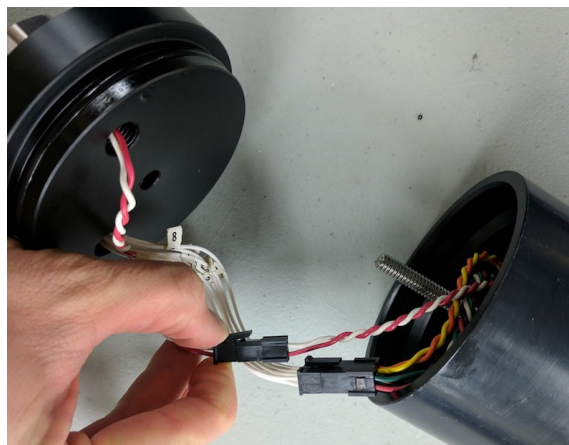

Figure 24: Disconnecting the rear bulkhead Molex connectors
3. Gently disconnect the Molex connectors between the rear bulkhead and the internal electronics (Figure 24).